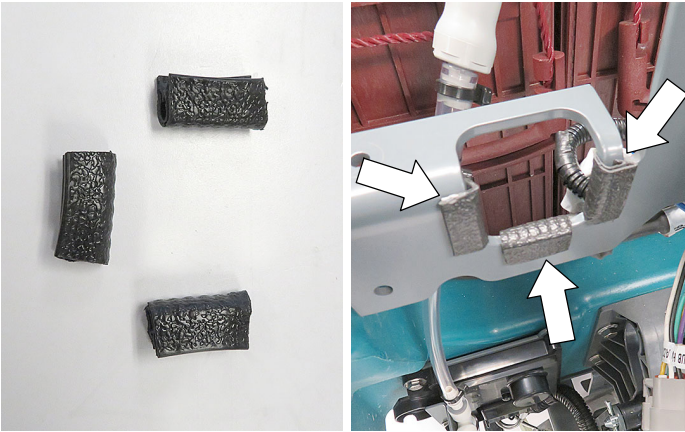

Fig. 6
8. Install the 3 pieces of protective molding to the machine frame directly above the ABW module as shown (Figure 6).